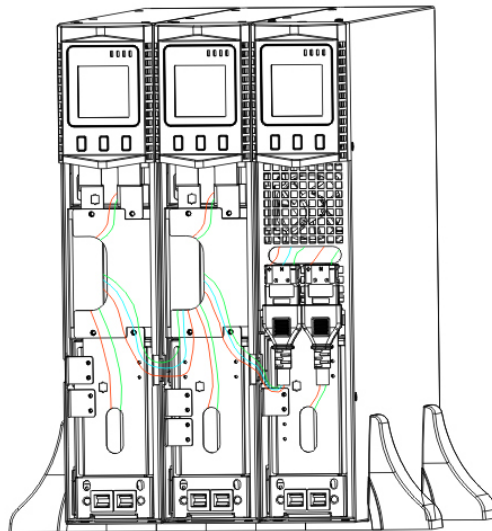

FIG.15 The installation for UPS and battery box
1. Install the base and place the RT UPS on the base one by one as Fig.15 shows.